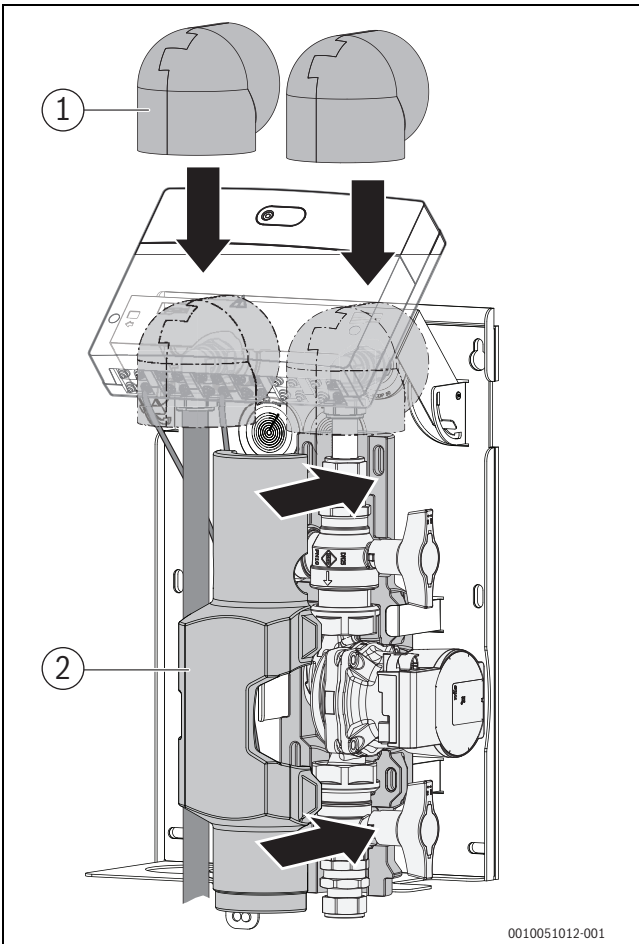

Fig. 36 Install thermal insulation (example: hydraulic connection, option 1)
- ▶ After a successful leak test, insulate the pipes and elbow fittings in the hybrid set with the supplied thermal insulation parts (→Fig. 36).